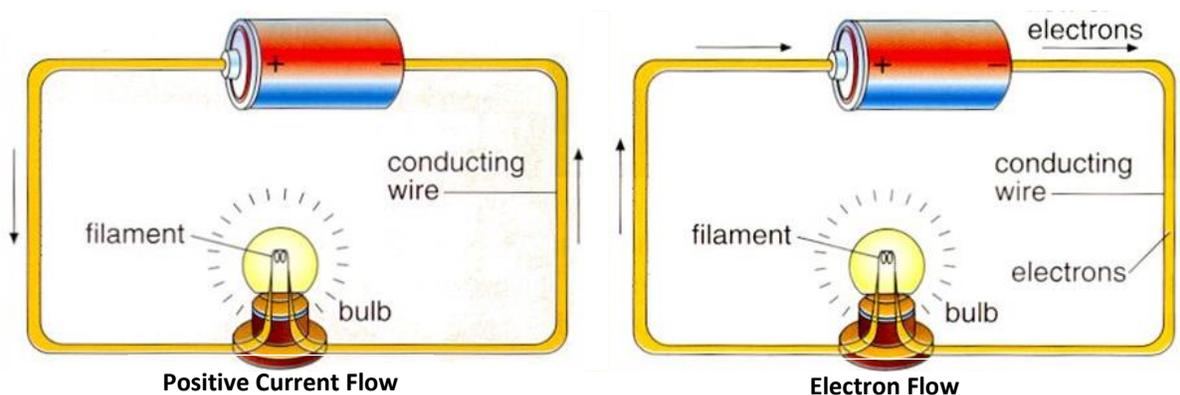

Figure 5.1: Two Kinds of Electrical Current
- 5-16 The early scientists labeled the terminals of a battery "+" and "-". Then they incorrectly guessed that something was flowing *out* of the positive terminal and *into* the negative terminal. That is, they assumed the current flowed from positive to negative, as shown at the left in Figure 5.1.